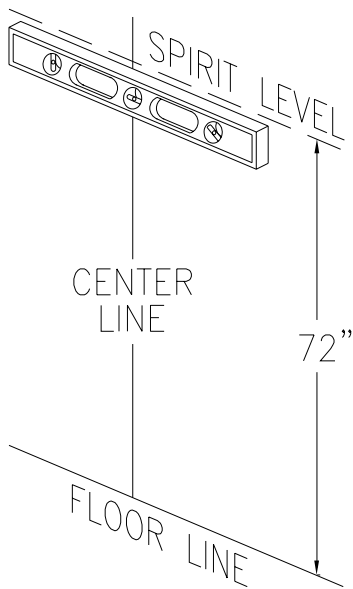

Figure 2. Center Line Mark
1. Determine and mark the vertical center line for installation of the AutoSwitch Console. (Figure 2).